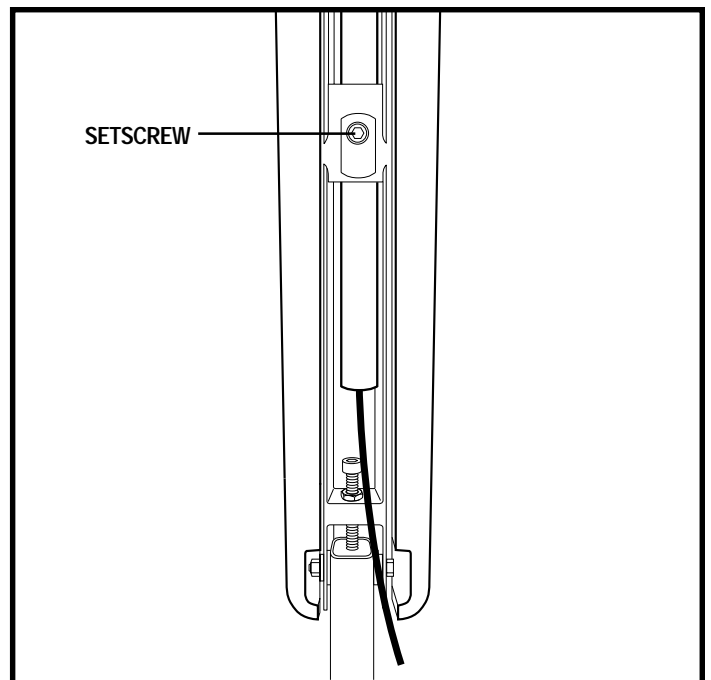

Figure 15. Underside of Armrest
4. Flip up the armrest and loosen the setscrew. See figure 15.